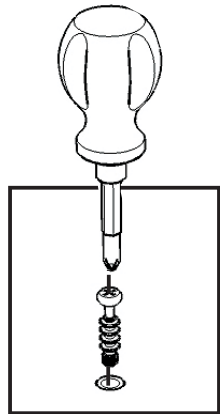

Figure 1
(See figure 1)
STEP 1 Figure 1
Attach J2 to J3 and J4 using long wood screws (4X), tighten halfway. (see Figure 1)